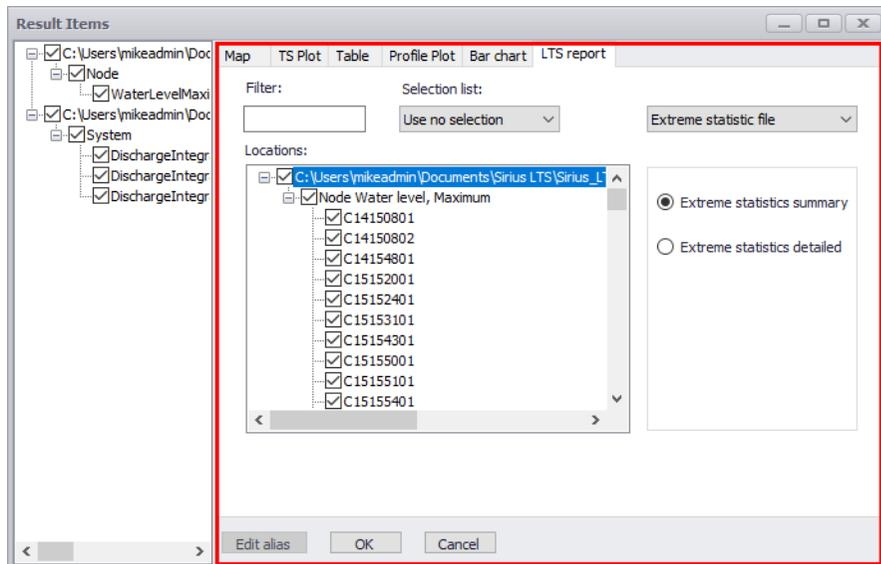

Figure 19.62 The LTS Report tab on the Result Items dialog
LTS statistics reports can be generated through the LTS Report tab on the Result Items dialog (Figure 19.62). The following types of LTS Reports could be generated:
- Access the ‘LTS Report’ tab on the ‘Result Items’ dialog (Figure 19.62).